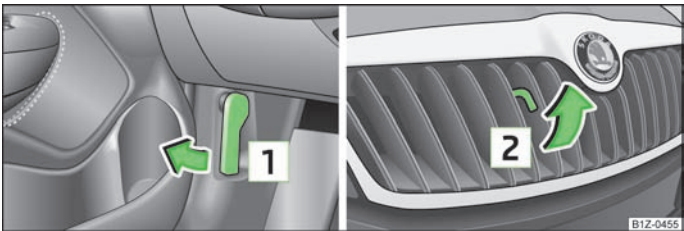

Fig. 134 Bonnet/radiator grille release lever: Release lever
- Pull the release lever under the dash panel **1** » Fig. 134.
- Pull the release lever in the direction of the arrow **2** » Fig. 134 and the bonnet is unlocked.